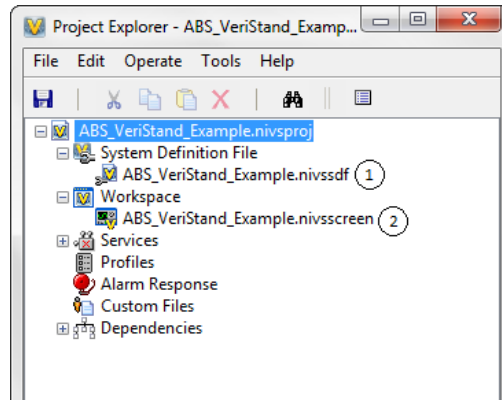

Figure 24. VeriStand project with ABS example.
4. Set the User ID (1) for target machine as root.
5. Fill in the IP addresses of the target (2) and host (3) machines.
6. Click the browse button (4) and find the VeriStand Project File you created in the previous section with file extension \*.nivsproj.
7. Check the **Leave files on the target computer** and **Set integration method and time step** checkboxes. Select the integration method AM-2 and math model time step to 0.001 (5).
8. Set **Import Channels** as **I/O Channels→IO Channels: Import** and link import data (6) **Brake System: Control and External Models→ABS**.
9. Set **Export Channels** as **I/O Channels→IO Channels: Export** and link export data (7) **Brake System: Control and External Models →ABS: Vehicle Speed, M/C Pressure**.
10. If a VeriStand project is open, save your project and quit Veristand (Ctrl-Q). Now click the **Open** button. This should open NI VeriStand Project Explorer window (Figure 24).
1. Expand **ABS\_VeriStand\_Example.nivproj**→**System Definition File**. Double click the system definition file **ABS\_VeriStand\_Example.nivssdf** (1) (Figure 24) to open the System Explorer window (Figure 25).
13. Exit to the System Explorer (Figure 25), save and exit back to the VeriStand Project Explorer window (Figure 24).
14. Open the workspace window (click ② in Figure 24). In this window (Figure 30), you can add some objects (e.g., speed meter) and keep track of all the variables while running.
15. Go back to the CarSim GUI and make sure the Live Video button is 1. Press the **Send** button. This should open the Live Animation. To run in NI VeriStand, go back to the VeriStand Project Explorer (Figure 24) and click on **Operate**→ **Deploy**. This will automatically open the workspace and allow you to monitor the objects you added to the workspace as it runs. The workspace setup for this example is shown in Figure 30.